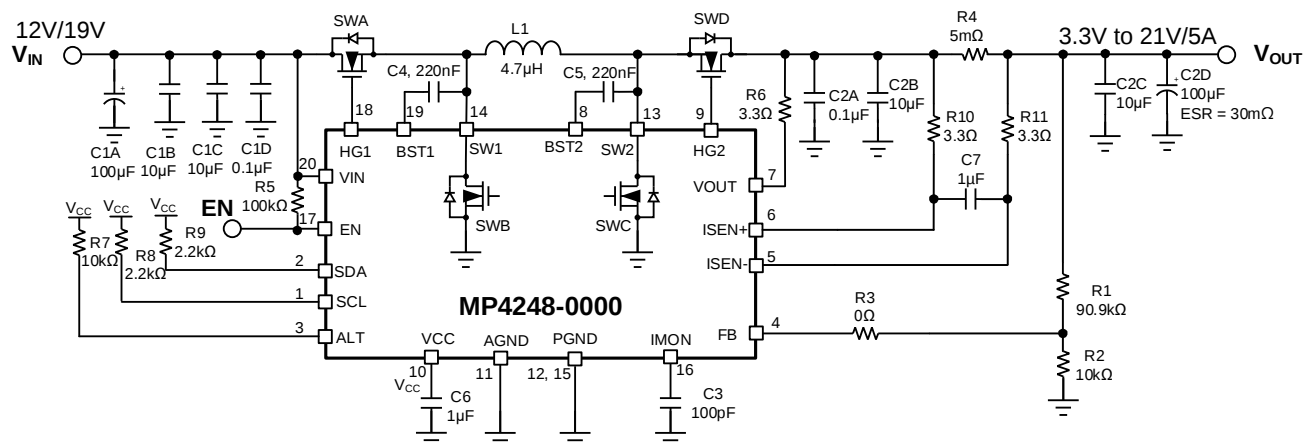

Figure 16: Typical Application Circuit (V_{IN} = 12V/19V, V_{OUT} = 3.3V to 21V/5A, Default On)
10) The recommended layout is based on Figure 16 on page 40.